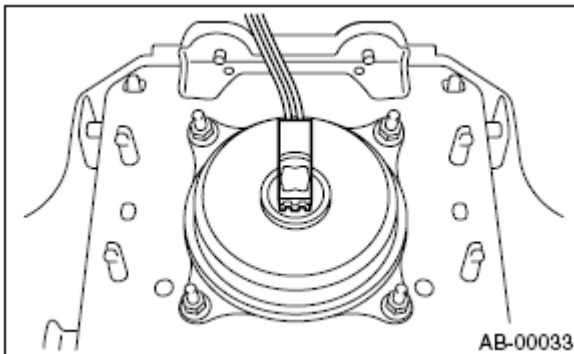

Figure 1.2 - "GD" MY04-05 Single Stage Airbag Harness
- You will immediately notice the airbag harness. There may be one or two plugs and one ground plug connected to the airbag. The ground is removed with another gentle pull. The main connectors, located on the center of the rear of the airbag, will have either one yellow or one yellow and one pick lock tabs. Use a small flat head to gently pry this upward. Place this yellow lock tab in a safe place (refer to figure 1.2 or 1.3 for applicable model year).